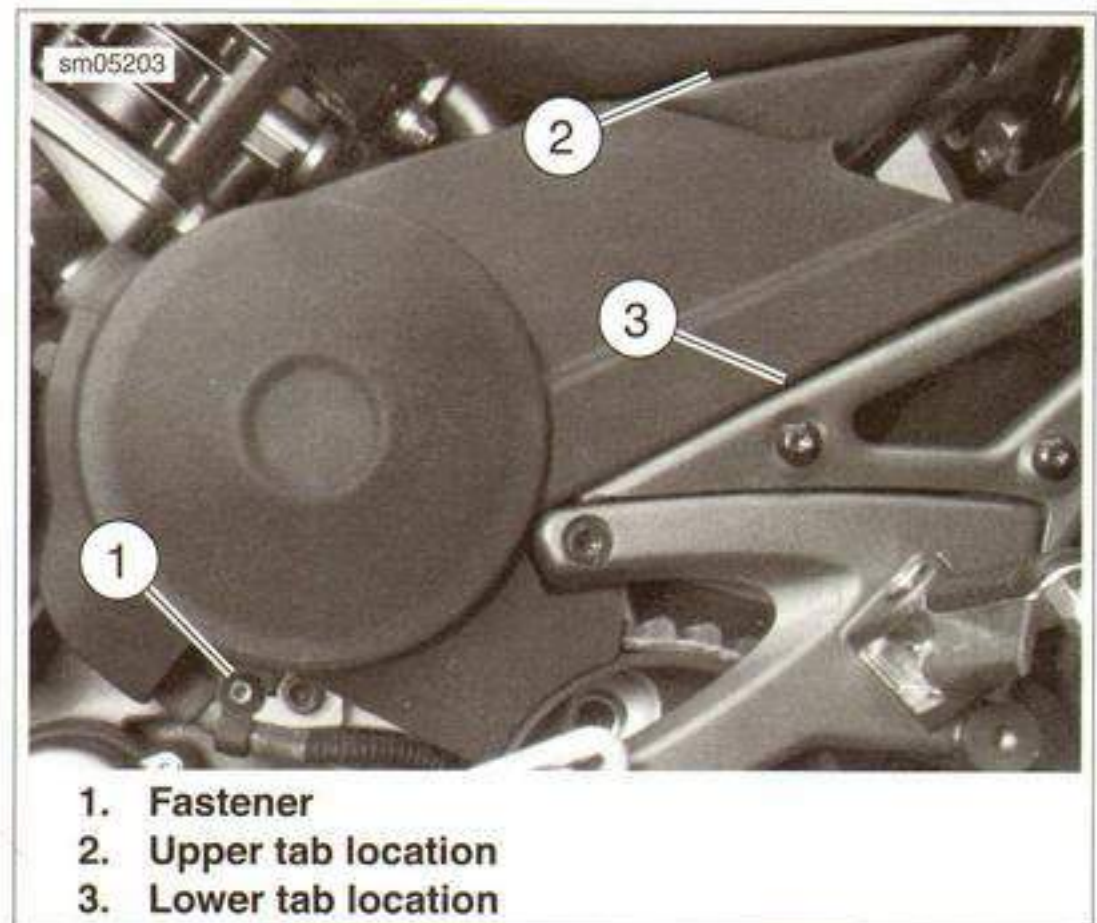

Figure 3-9. Engine Sprocket Cover
1. See Figure 3-9. Remove fastener (1) and remove engine sprocket cover.
- See Figure 3-9. In next step, be sure upper tab (2) of engine sprocket cover engages frame and lower tab (3) engages rider footpeg support.
5. Install engine sprocket cover. Install engine sprocket cover fastener (1) and tighten to 13.0-14.5 Nm (115-128 in-lbs).